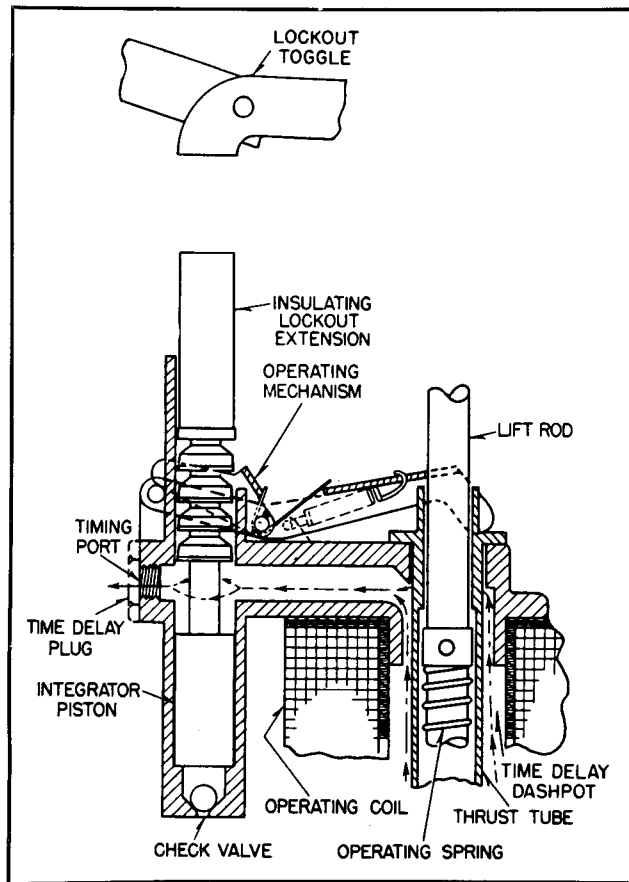

FIG. 5. Integrator Lockout Action in Original Position
**Lockout Integrator.** Each opening of the recloser advances the 4-step lockout integrator piston one step (see Figure 5). As this piston is under oil, it draws oil in through the check valve which closes at the end of the upward travel and traps oil below the piston. Thus, on the second operation, the mechanism will engage the piston below the second flange and lift the lockout piston one step farther.
**Alternate Setting No. 1.** The recloser may be changed in the field to give one instantaneous operation plus three time-delayed operations to lockout. This is easily done by removing the time-delay plug (shown in Fig. 5) and discarding it.
Removal of the plug opens a port which allows oil to flow freely out of the timing dashpot (Fig. 5). After the first operation, however, the integrator piston acting as a slide valve, closes the port.
**Alternate Setting No. 2.** For some applications it may be desirable to use a sequence of three operations to lockout. This may be accomplished by unscrewing the insulating lockout extension (Fig. 5) on the integrator piston  $1\frac{1}{32}$  inch so it strikes the lockout toggle on the third operation. Correct adjustment may be checked by engaging the pawl in the second step of the integrator piston and operating the recloser mechanism by hand to the full open position; the lockout extension should then clear the lockout toggle by approximately  $\frac{3}{16}$  inch.